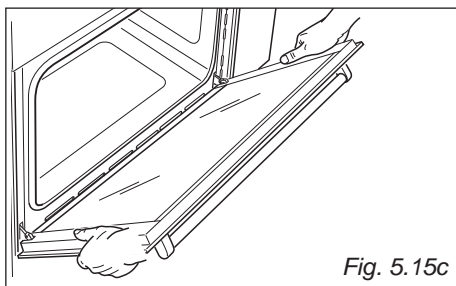

Fig. 5.15d
- Withdraw the hinge hooks from their location following arrow "C" (fig. 5.15d).